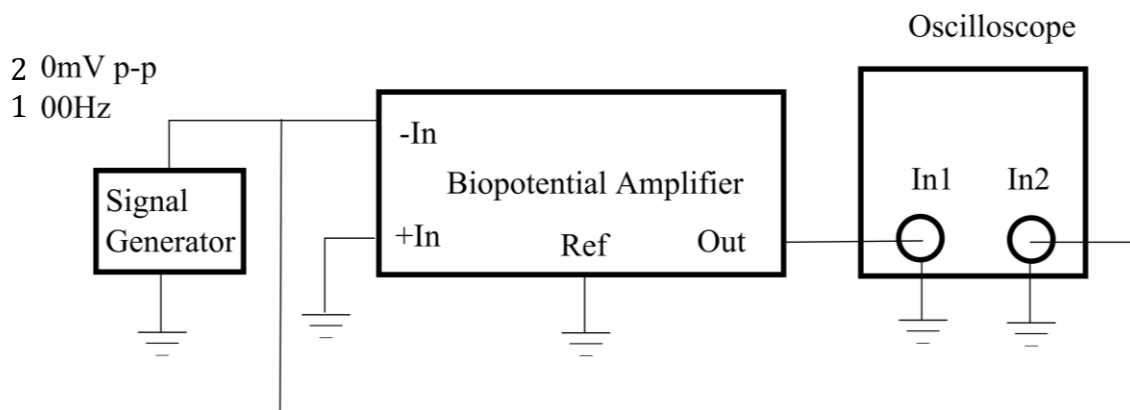

Figure 2: Schematic for measuring inverting gain.
4. Without changing the instrument settings connect the circuit as in Figure 2.